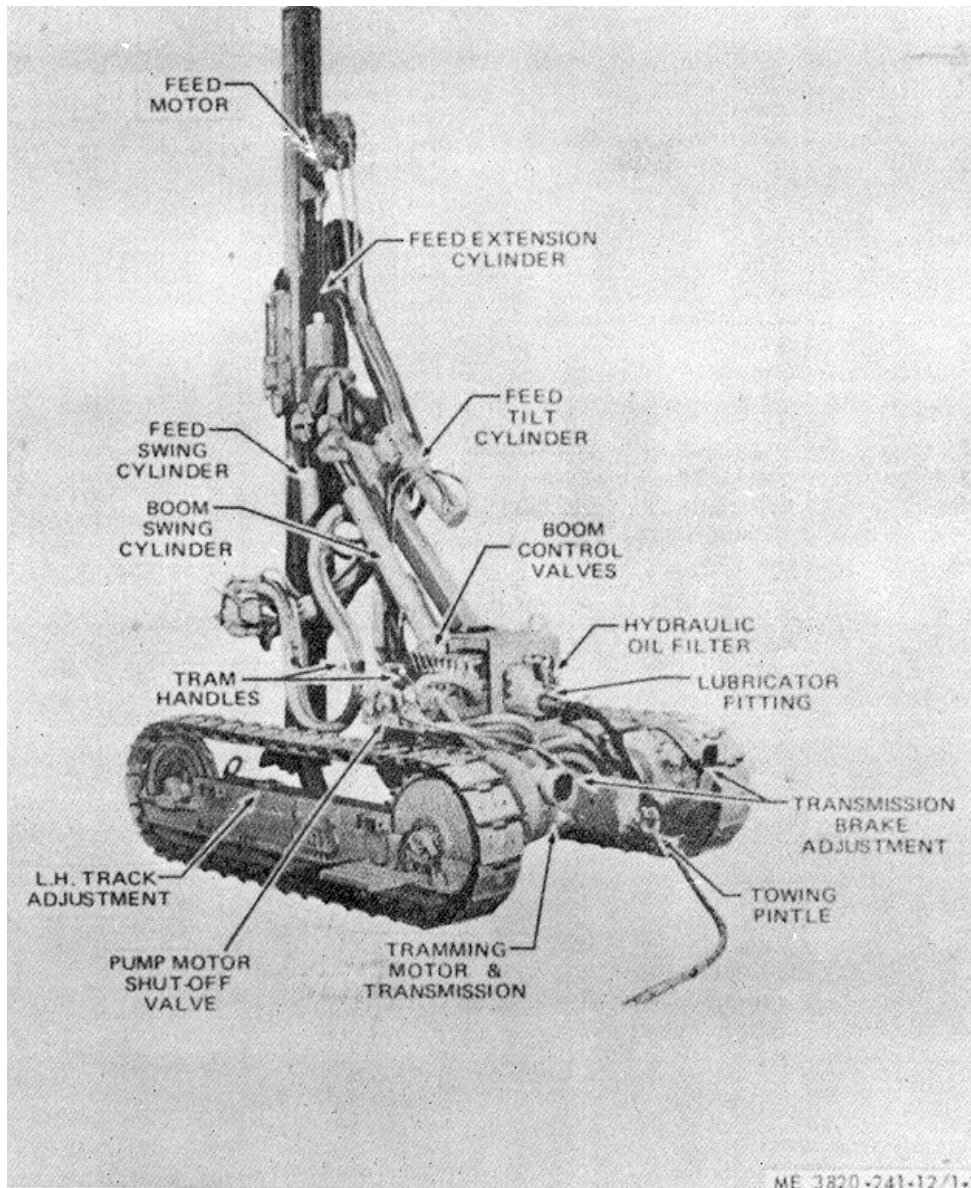

Figure 1-2. Rock drill assembly, left rear, 34 view.
(4) A hydraulic feed extension cylinder (fig. 1-2) to provide a four foot extension for the feed mechanism and to maintain pressure on the stinger.
(9) A boom lift cylinder (fig.1-2) used to raise and lower the boom assembly.
(10) A boom swing cylinder (fig.1-2) used to move the boom assembly from left to right.
(11) A feed tilt cylinder (fig. 1-2) to control the horizontal and vertical position of the feed.
(12) A feed swing cylinder (fig.1-2) used to move the forward end of the feed from left to right.
(14) A hydraulic boom control valve (fig. 1-2) which controls the feed tilt, boom lift, feed swing and feed extension, and boom swing functions.
(15) Two air operated tram control valves (fig. 1-2) to operate the left and right hand tram motors.
(16) A pump motor shut-off valve (fig. 1-2) to maintain hydraulic pressure for the hydraulic functions.
(17) A lubricator fitting (fig.1-2) which is used to 1-2 introduce oil into the air stream.